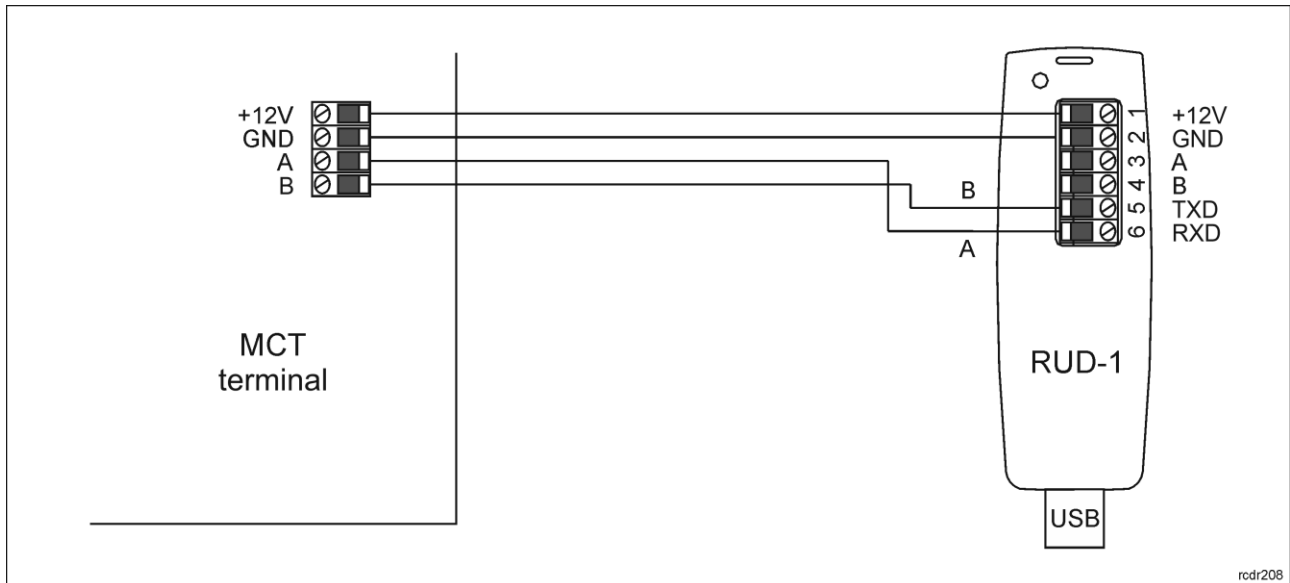

Fig. 9 Connection to RUD-1 interface (firmware update)
1. Connect the reader to RUD-1 interface (fig. 9) and connect the RUD-1 to computer's USB port.